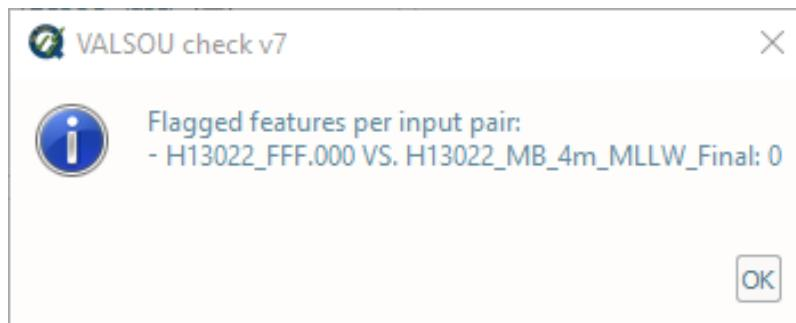

Fig. 2.45: The output message at the end of **VALSOU check v7** execution.
- After computing, the output window opens automatically, and the results are shown (Fig. 2.45). Note, the check considers all combination of grids and features files loaded. If there is no overlap found between a grid and feature file, no output is generated, and the summary will report “no overlap”.